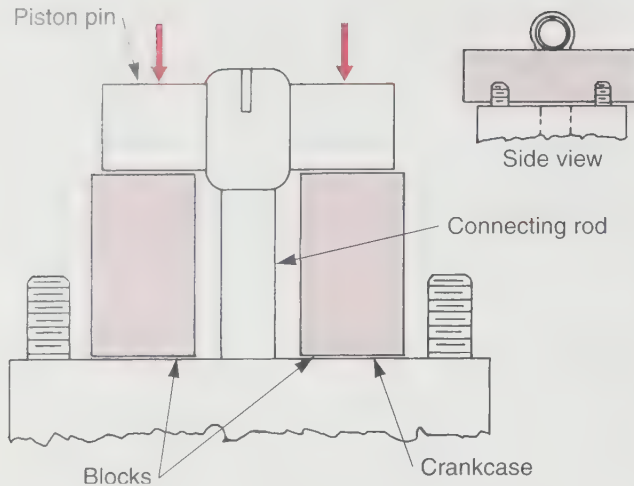

Figure 18-19. Piston pin blocks placed across the top of the crankcase provide a positive crankshaft stop. This keeps the engine from turning during repair.
- Blocks fitted under piston pin to limit rod and crankshaft movement, **Figure 18-19**.